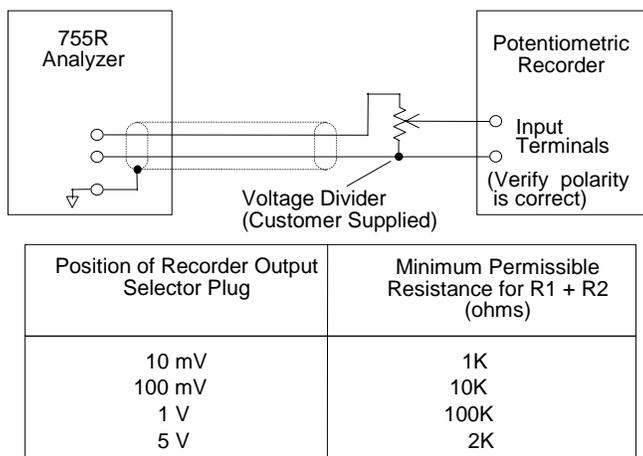

FIGURE 2-3. CONNECTIONS FOR POTENTIOMETRIC RECORDER WITH NON-STANDARD SPAN
cable, type SJT, minimum wire size 18 AWG. Route power cable through conduit and into appropriate opening in the instrument case. Connect power leads to HOT, NEUT, and GND terminals on the I/O board. Connect analyzer to power source via an external fuse or breaker, in accordance with local codes. Do not draw power for associated equipment from the analyzer power cable (Refer to Figure 2-3).
- b. For a device with intermediate span (i.e., between the specified values), connect the cable to the device via a suitable external voltage divider (See Figure 2-3).